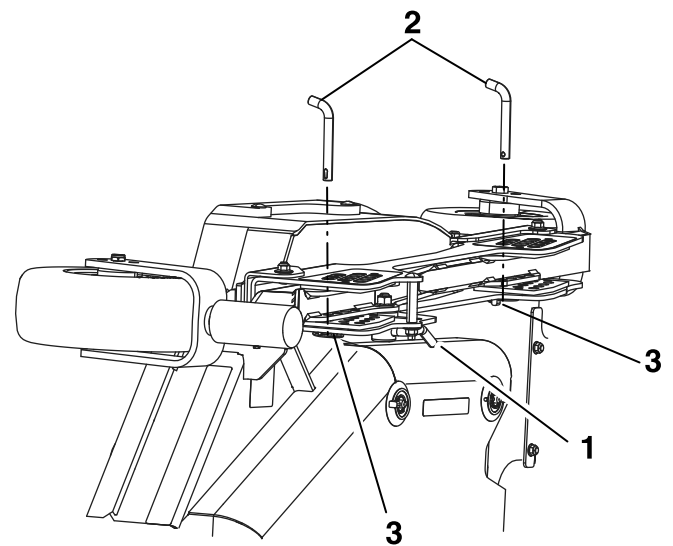

Figure 70
3. Unlock the left and right wing deck cam locks (Figure 70).
4. Remove and retain the wing deck height-of-cut lanyard (Figure 70).